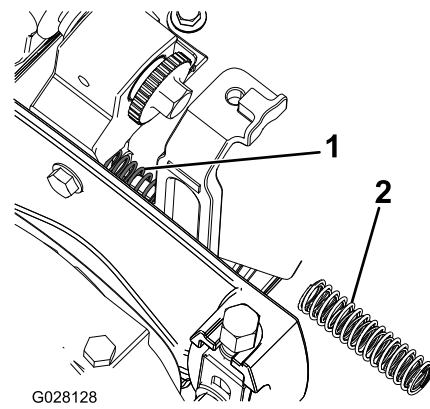

Figure 6
11. Use a long-nose pliers to remove the compression springs on both sides of the cutting unit and replace them with the new inner and outer compression springs (Figure 6).